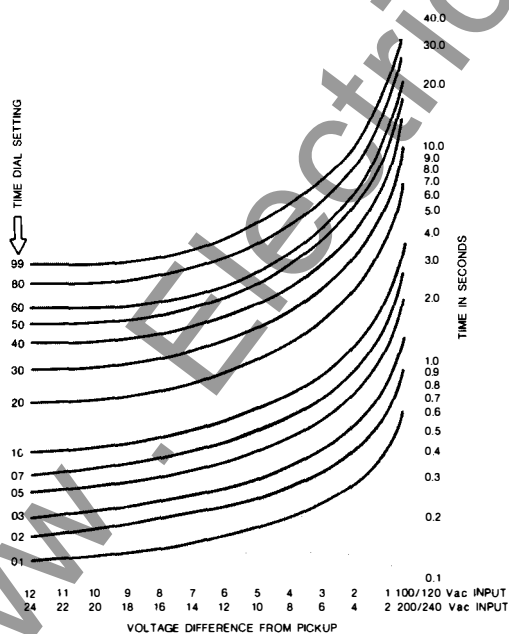

FIGURE 3. UNDERVOLTAGE INVERSE TIME CHARACTERISTIC CURVES
- b. Selection of a particular response curve by the front panel TIME DIAL over the range of 01 to 99 ($\pm 5\%$ or 25 mSec, whichever is greater) (Reference Figure 3.)
Inverse time is adjustable from 01 to 99 in increments of 01. The setting defines a curve as illustrated in Figures 3 and 4. Inverse timing is accurate within $\pm 5\%$ or 25.0 milliseconds, whichever is greater, for any combination of time dial and pickup setting.